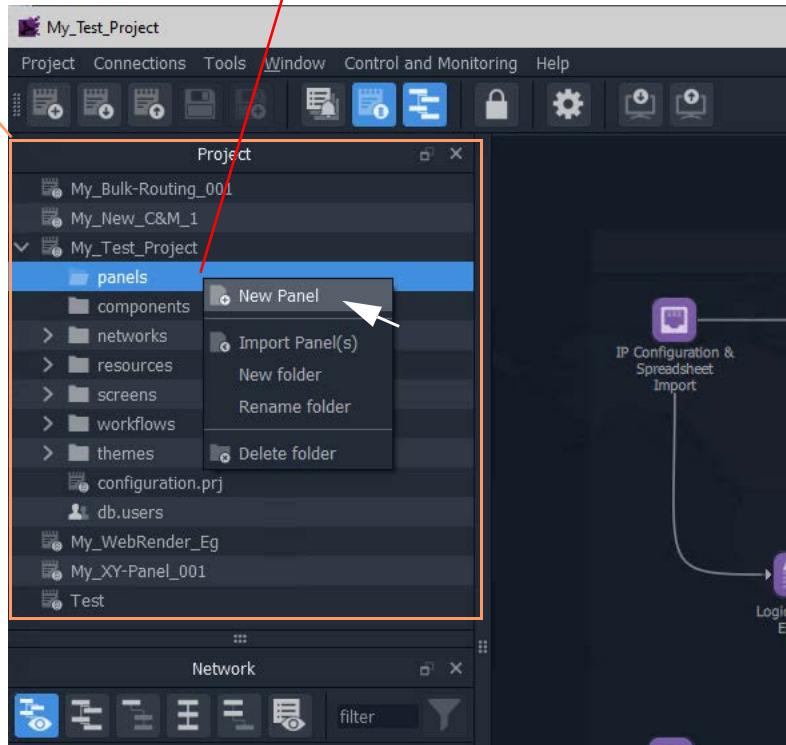

Fig. 13-6: Create a New XY Routing Panel
- 2 Right-click on the 'panels' folder and select 'New Panel'. See Figure 13-6.